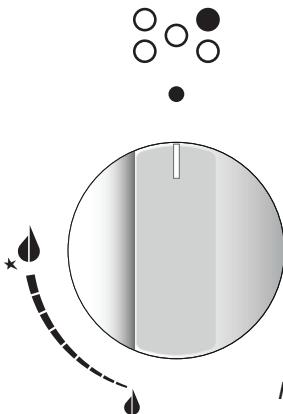
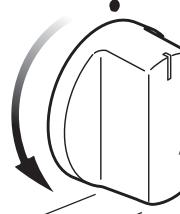

Fig. 3.1
Fig. 3.2
Gas flow to the burners is adjusted by turning the knobs (illustrated in fig. 3.1) which control the safety valves. Turning the knob, so that the indicator line points to the symbols printed on the panel, achieves the following functions:
1. Press in the corresponding knob and turn counter-clockwise (fig. 3.2) to the full flame position marked by the  symbol (fig. 3.1); hold the knob in until the flame has been lit. In the case of a mains failure light the burner with a match or lighted taper.